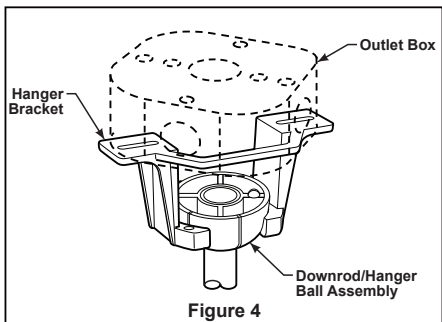

Figure 4
- ☐ 4. Loosen the two set screws and locking nuts in the downrod support of the motor assembly. Route the brown, blue, red, gray and yellow wires through the downrod. (Figure 4)
- ☐ 2. Carefully lift the fan and seat the downrod/hanger ball assembly on the hanger bracket that was just attached to the outlet box. Be sure the groove in the ball is lined up with tab on the hanger bracket. (Figure 4)
3. Connect wires using connectors as shown in Figure 4.
4. Assemble the LED assembly to the light kit assembly using the screws removed in Step 3A. (Figure 4)
- ☐ 4. To make fan operational, install two 3V batteries (included) in hand-held remote transmitter, with fan power off. Then, follow the remote code setting process. If not used for long periods of time, remove battery to prevent damage to transmitter. Store the remote away from excessive heat or humidity. (Figure 4)